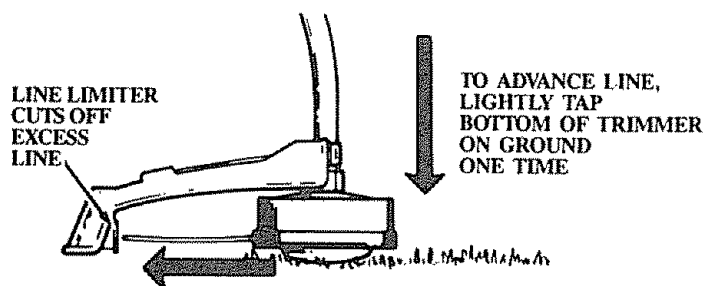

Figure 15
- Lightly tap the bottom of the trimmer head on the ground one time. See Figure 15. Approximately 2 inches of line will be advanced with each tap.